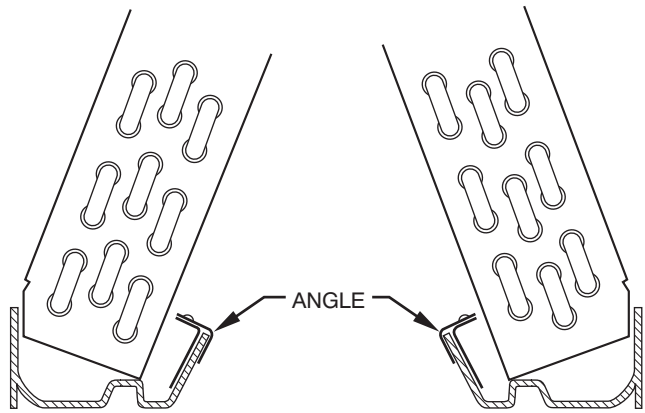

Fig. 2 - Position of Angles on A-Coil
10. Tilt coil assembly back and slide angles (provided in kit) over each inside wall of condensate pan. Pop-riveted flange of angles should extend toward coil. (See Fig. 2.)